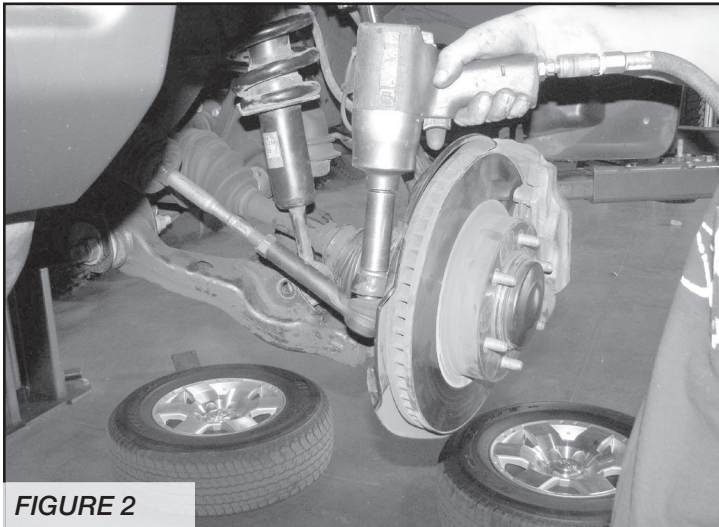

FIGURE 2
4. Working on the Drivers side of the vehicle remove the nut from the tie rod ends. Disconnect the tie rod ends from the steering knuckle using a pickle fork tool. **SEE FIGURE 2**